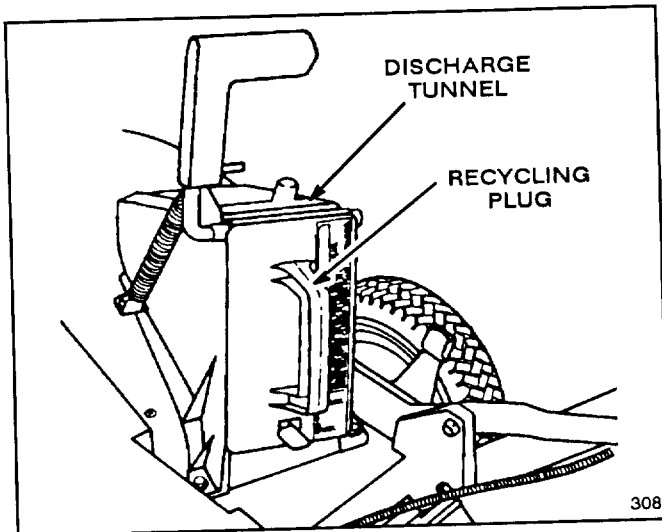

Figure 21
1. **Rear Bagging Kit (Model No. 59174 for self-propelled models, Model No. 59179 for hand push models)**—Install discharge tunnel and rear mounting grass bag to convert Recycler® mower to a rear bagging mower (Fig. 21). Includes discharge tunnel plug.